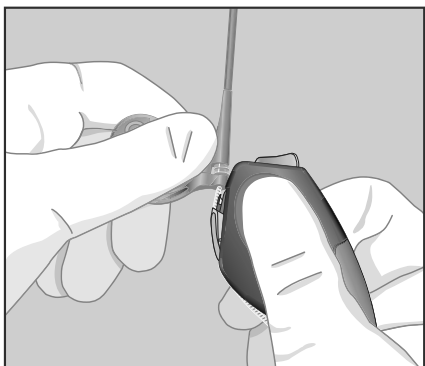

Fig. 3: Hold the slitter tool level with the catheter handle.
- 5 Position the handle of the guiding catheter on the blade of the slitter tool - see Figure 3.
Note: When using the slitter tool, make sure that the guiding catheter moves straight along the slitter tool (Fig. 3).